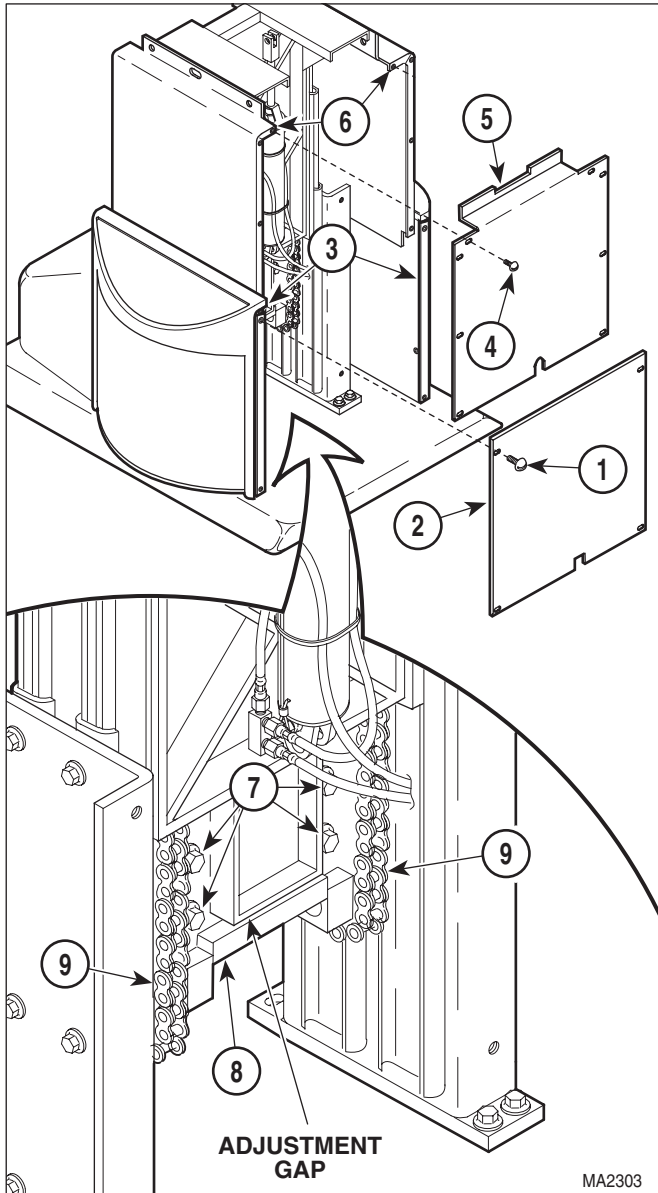

Figure 4-25. Chain Assembly Adjustment
- (1) Raise BASE UP function all the way up.
- (2) Unplug table power cord from outlet.
- (3) Remove four screws (1, Figure 4-25) and front outer shroud (2) from left and right hand outer shrouds (3).
- (4) Remove eight screws (4) and front inner shroud (5) from left and right hand inner shrouds (6).
- (5) Loosen four screws (7).